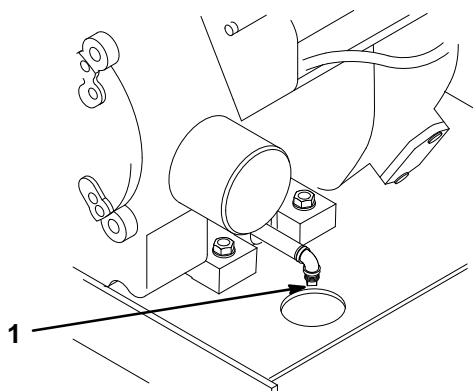

Figure 25
3. Place a pan below the oil drain. Remove the oil drain plug (Fig. 25).
5. Slowly pour approximately 80% of the specified amount of oil specified, page 36, into the filler tube (Fig. 25). Now check the oil level; refer to Checking Oil Level, page 36. Slowly add additional oil to bring to "FULL" mark on dipstick.